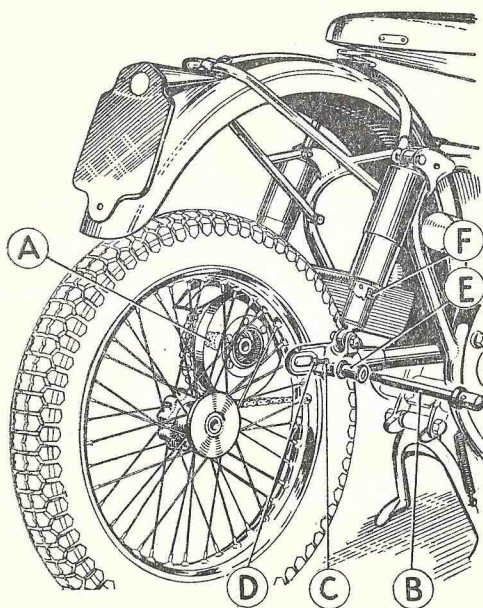

Fig. 30. Rear Wheel Removal.
Removal of the wheel does not affect the chain or brake adjustment. Remove the spindle (B) Fig. 30, it has a normal right-hand thread and therefore unscrews in an anti-clockwise direction. The distance bush (E) falls clear when the spindle is removed and the wheel can then be pulled away from the brake drum and withdrawn from the machine.
First put the machine on its centre stand. Whenever the rear wheel is adjusted, the nut securing the torque arm to the brake plate must be slackened slightly so that the plate may pivot freely. Undo the spindle (B) Fig. 30, on the right-hand side of the machine, a few turns, and slacken nut (A) just sufficiently to allow the wheel to move.